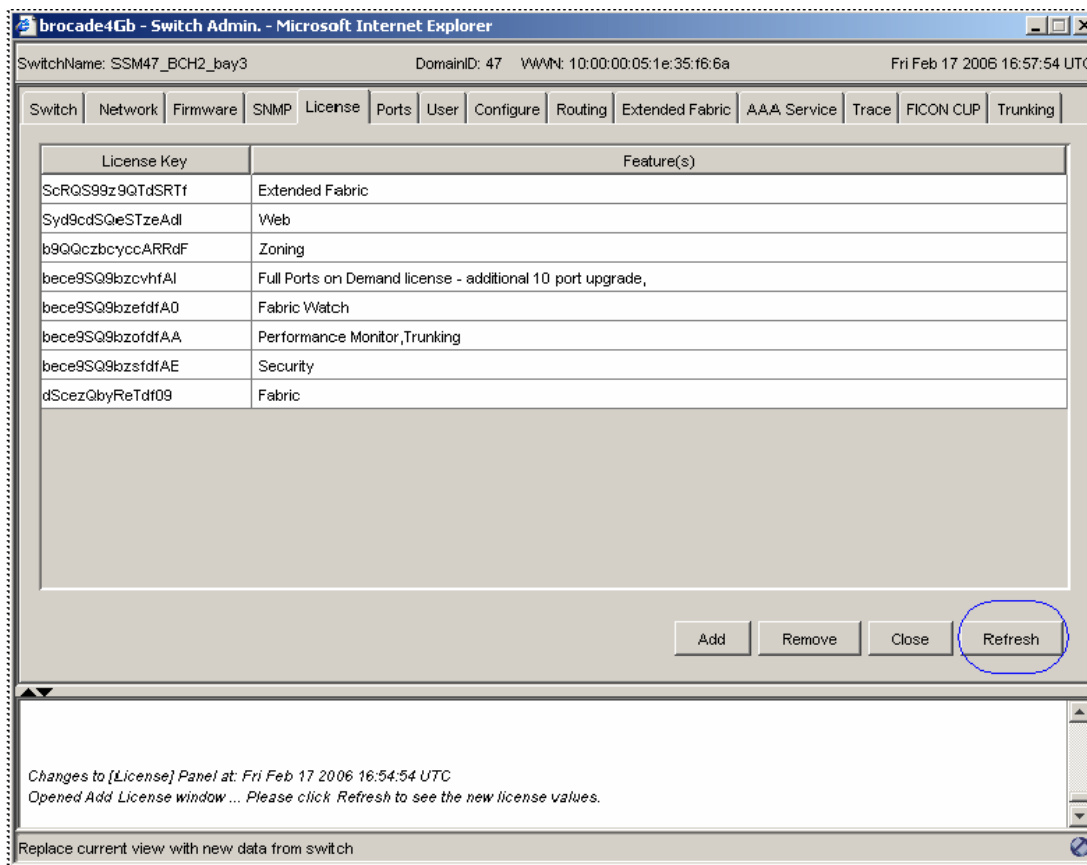

Figure 5-18 Confirm all licenses have been added
9. Click **Refresh** (Figure 5-18 on page 71) and verify that all new Licenses have been added to the Feature List.